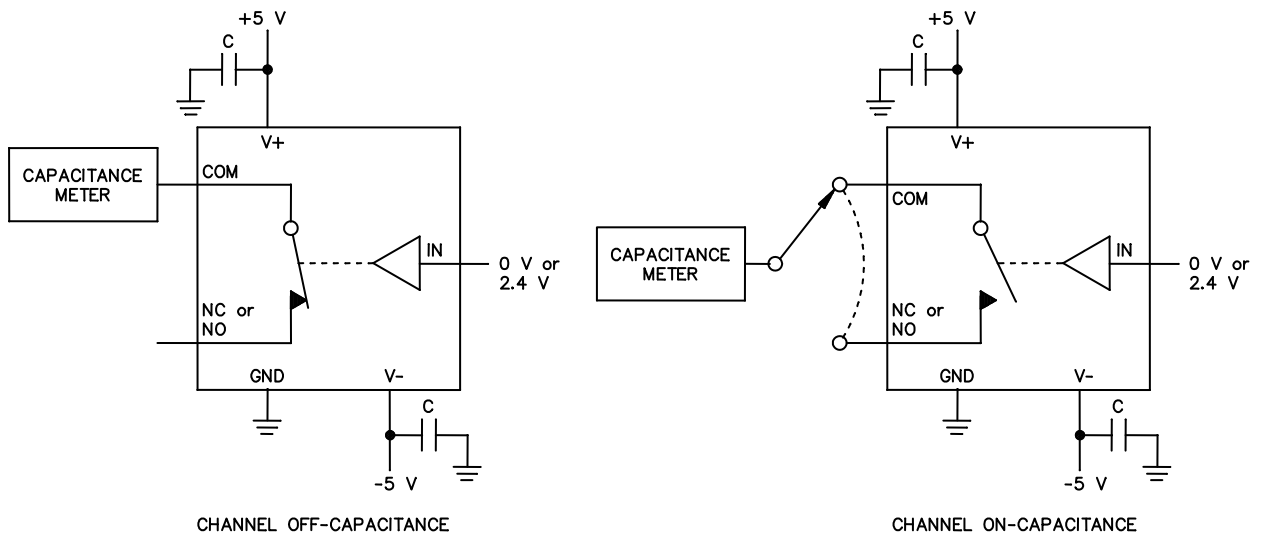

FIGURE 5. Channel capacitance.
- 8/ Between any two switches. See figure 5